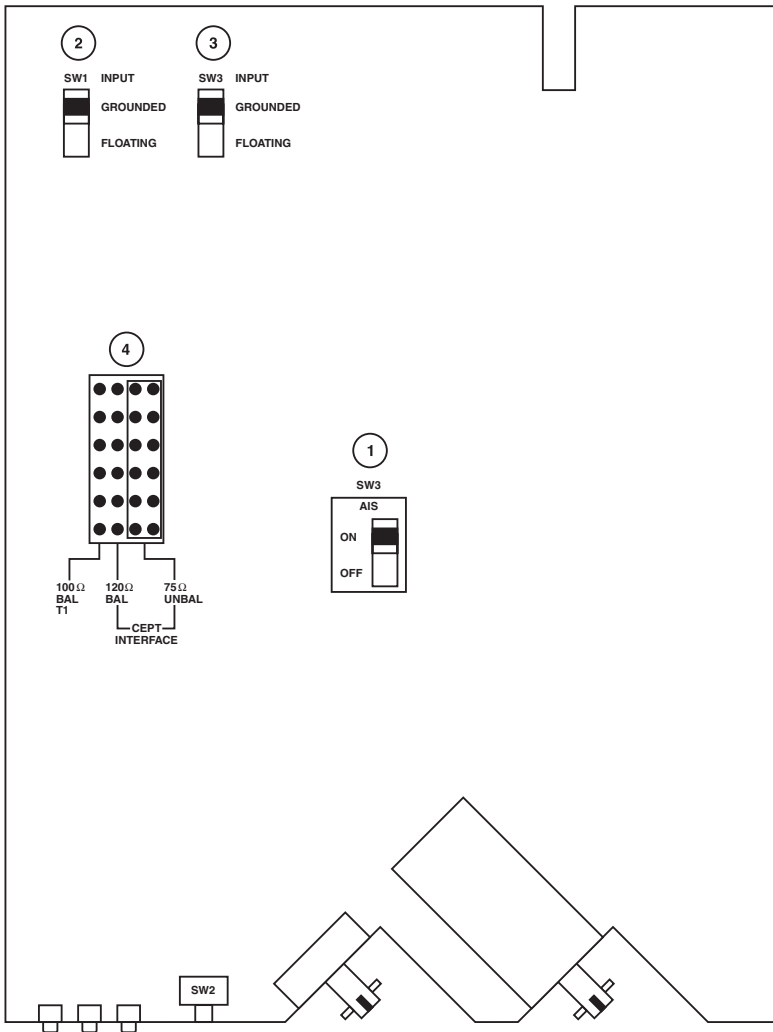

Figure 4-3. Locations of board-mounted controls.
To configure the FOLD Card, consult Figure 4-3 on the next page and **Sections 4.2.1** through **4.2.3** to identify the FOLD's board-mounted configuration controls and move them to your desired positions. (If the Card is installed in the RackNest 2/14, remove it by loosening the top and bottom screws and sliding it out of the Nest chassis.)
When the AIS DIP switch SW3 (item 1 in Figure 4-3) is set to ON (the default setting), the FOLD sends an “all ones signal” (AIS) across the fiberoptic link if it detects either (a) low or no signal on its T1/E1 interface or (b) high error rates on its fiberoptic interface. This signal will cause the remote FOLD to light its OPTICAL AIS LED, alerting operators there of the problem at the other site. If you don’t want the FOLD to send this signal across the fiber link, move this switch to the OFF setting.
If you will be using the FOLD’s balanced T1 or E1 interface, keep Input and Output DIP switches SW1 and SW2 (items 2 and 3 in Figure 4-3) both set to their factory-default “Floating” setting. (In this setting, the shields of the IN and OUT BNC connectors on the rear panel are isolated from the FOLD’s chassis ground.) If you will be using the FOLD’s unbalanced E1 interface, move both of these switches to the “Grounded” setting to connect the BNC shields to the FOLD’s chassis ground.
Move the jumper on the interface-type jumper block (item 4 in Figure 4-3) as necessary to select one of the FOLD’s three interface options: